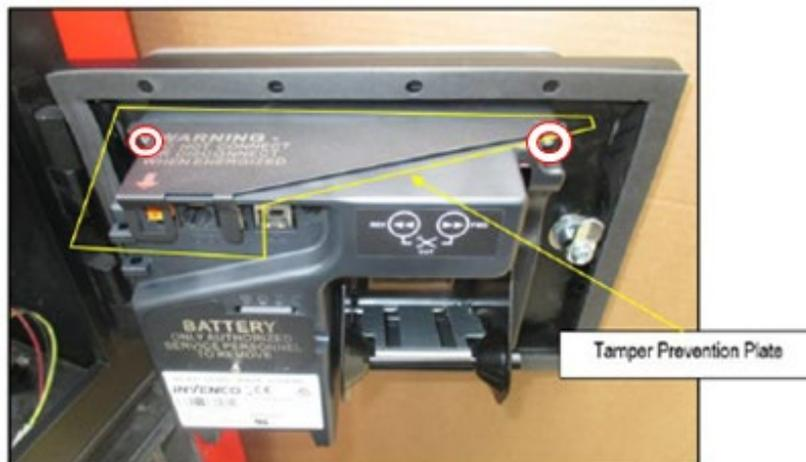

Figure 64
- 12) Use a 3mm hex driver or Allen key to remove and retain the tamper prevention plate and two screws (1 per side) on the back of the Tokheim Premier B Door EMV Sub-Assembly. See Figure 64.